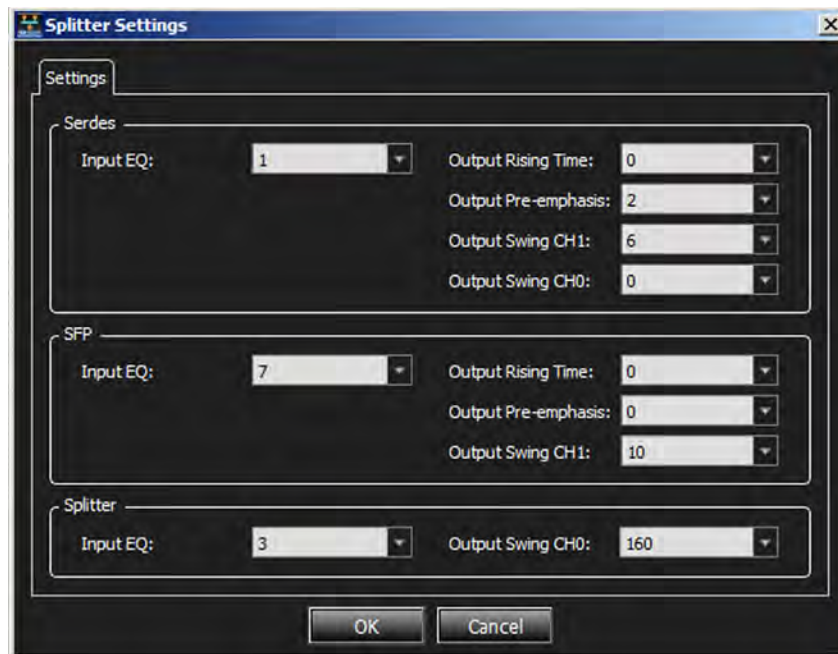

Figure 4.25: Splitter Settings Window for 10 GigE Device
- ❑ Splitter: Displays the Splitter Settings window (Figure 4.25).